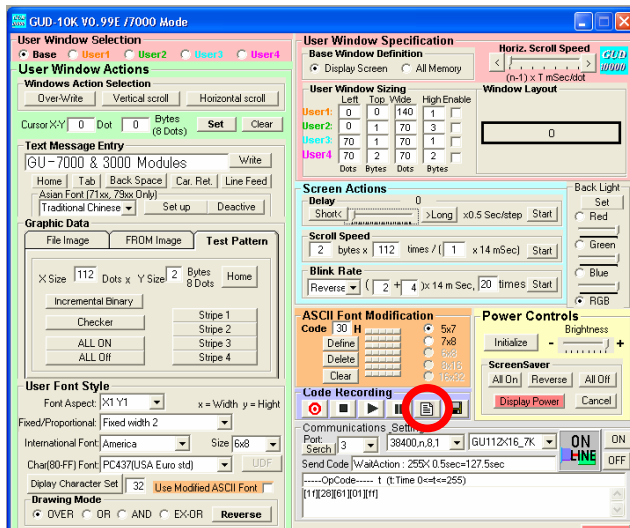

Fig. 2-17
In order to execute functions of the module, combining several commands is required in most cases. GUD-10k has a special window to write and execute a command set. Please refer to Fig. 2-17, Fig. 2-18 and the following steps:
1. Click  button to open a command set edit window (Fig. 2-17).
2. Click  button to open a command set edit window (Fig. 2-17).